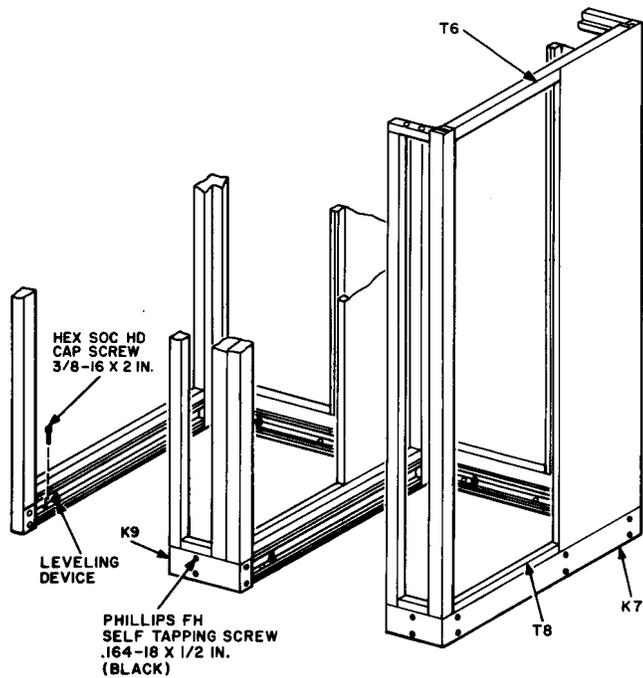

Fig. 16—Partial View of Two Booths
(6) Install T6, T8, and K7 (Fig. 16) on the last right-hand booth of a line-up.
(8) Install K9 kickplate (packaged separately) on the bottom-front-outside wall between booths (Fig. 16).